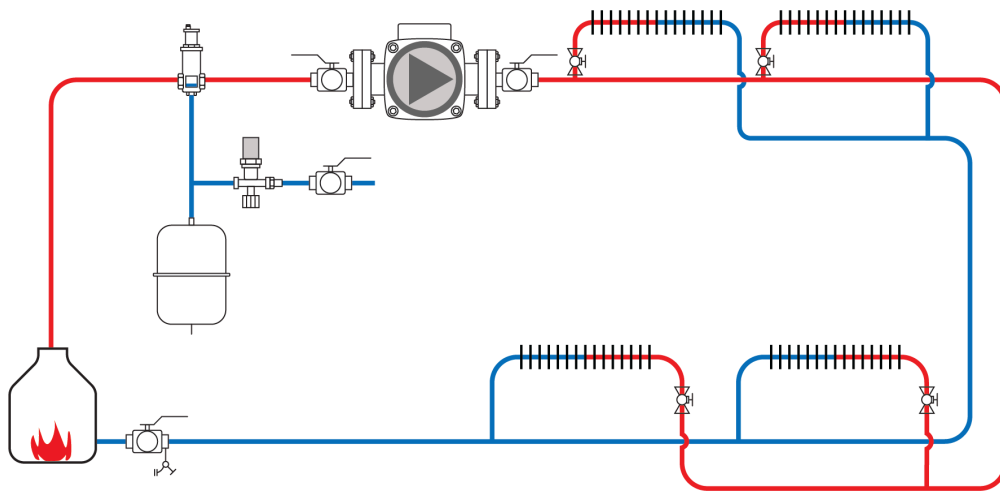

Figure 2
8. What system is shown in Figure 2?